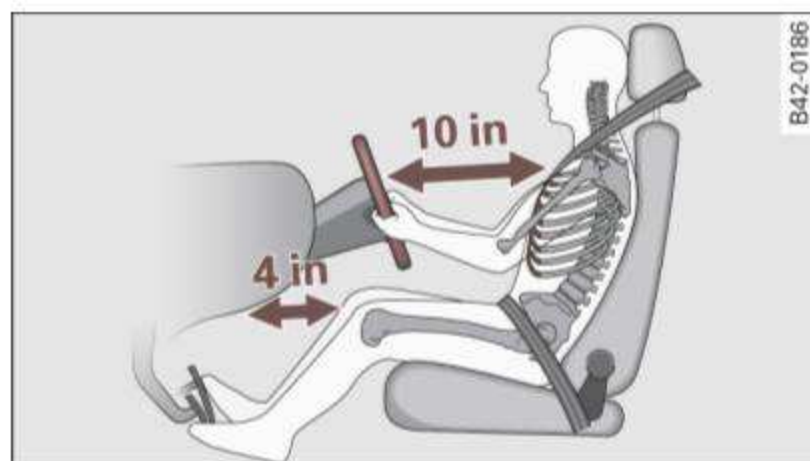

Fig. 85 The correct distance between driver and steering wheel
- Adjust the steering wheel so that there is a distance of at least 10 inches (25 cm) between the steering wheel and your breast bone ⇒ fig. 85.